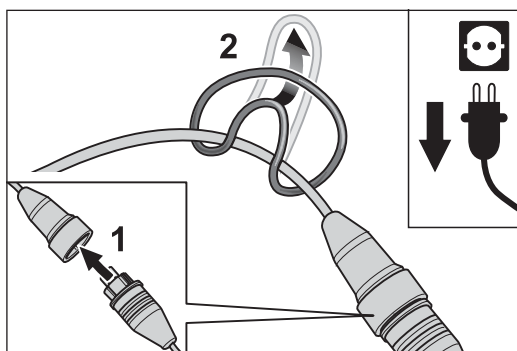

Fig. 13 Insert the plug of the motor cable in the coupler of the extension cable (1). Fasten the strain relief ring on the extension cable (2).
- 1 Insert the plug of the motor cable in the coupler of the extension cable (fig. 13, 1).
- 2 Fasten the strain relief ring on the extension cable (fig. 13, 2).